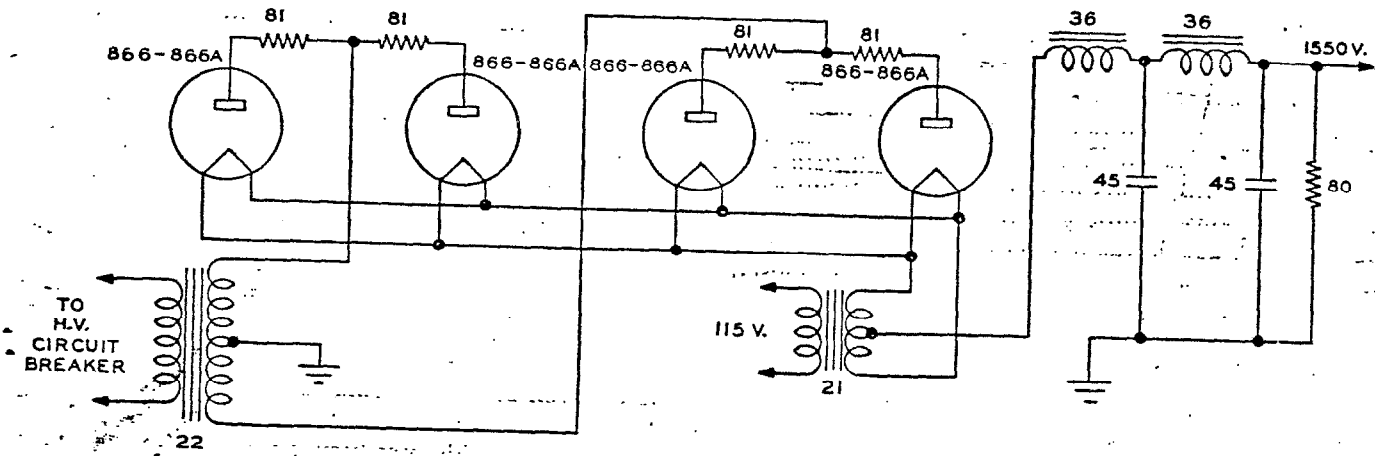

Figure 2-8. High Voltage Supply
d. **HIGH VOLTAGE SUPPLY.** (Refer to figure 2-8.)—The high voltage supply employs four half wave rectifiers in a full wave rectifier system. Plate voltage is applied to the high voltage rectifiers after